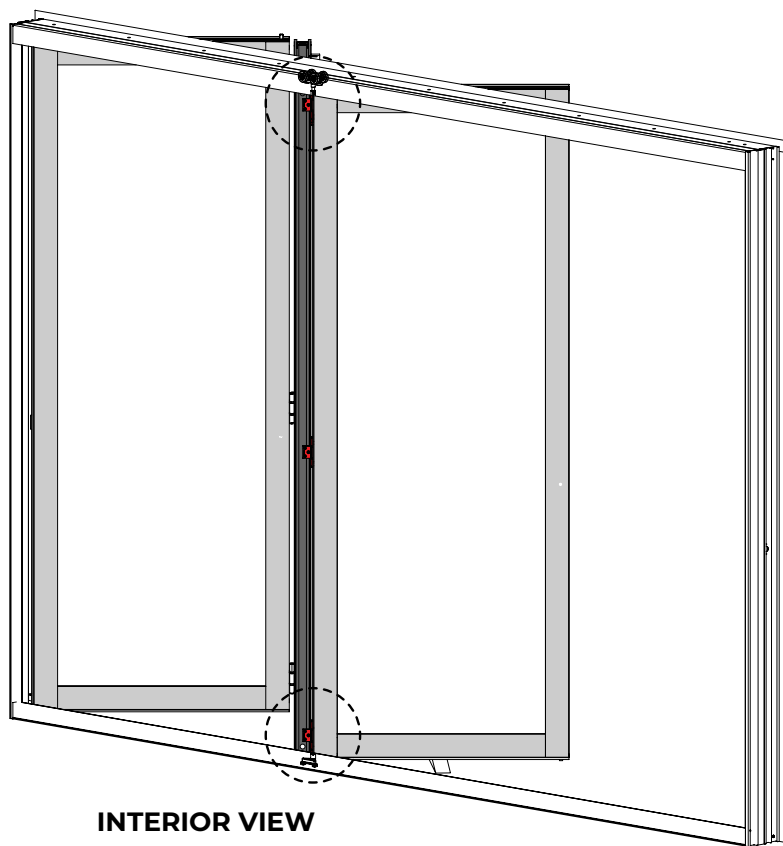

FIG 40
- From the Interior of the building, with the Glazing Stops on the panel to the exterior, attach the hinge to the panel loosely. Use **FA8609**. **[FIG 40]**